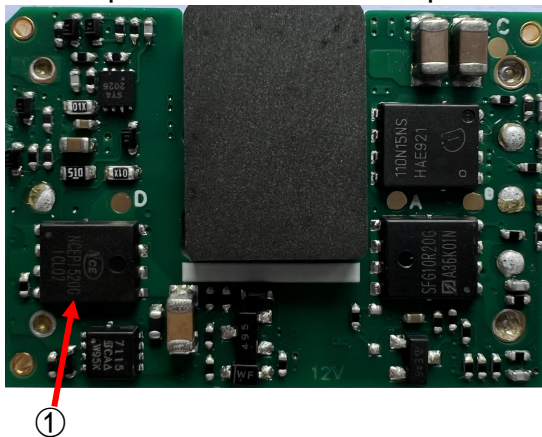

Fig. 6
The thermal element is installed on the top surface of the product and dissipates heat to the surrounding environment by conduction, convection and radiation, sufficient cooling conditions shall be provided to ensure reliable operation of the product. It can be verified that cooling conditions are met by measuring the temperature of thermal test point ① in Fig.6.